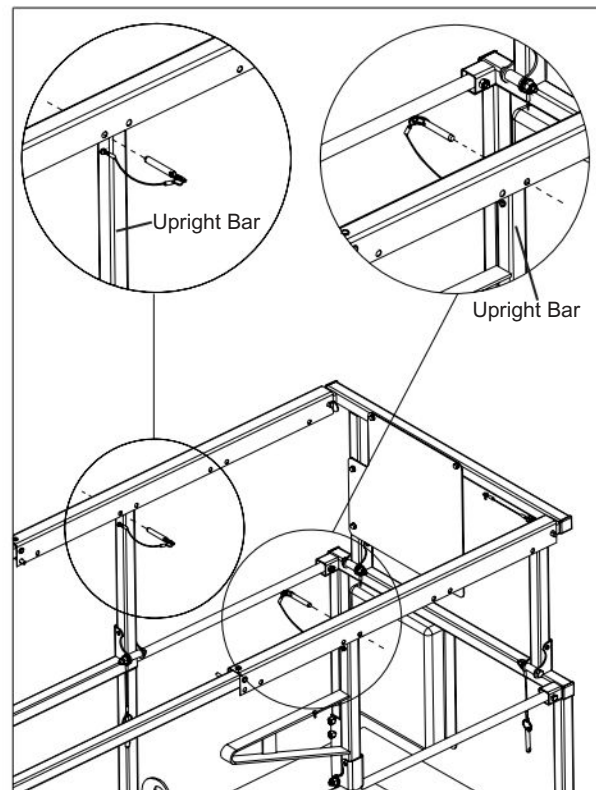

Figure 2-15. Variable Position Manual Extension Deck
2. Upon extension or retraction, reinsert the locking pins. Insert the pin on one side of the machine in front of the upright bar and the pin on the other side of the machine behind the upright bar to prevent accidental movement, in either direction, of the manual extension platform during travel or transport. Refer to Figure 2-15 for a configuration example.